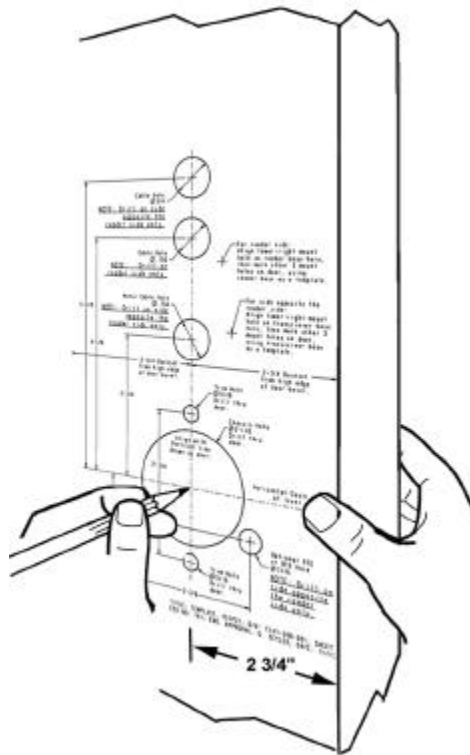

Figure 2-2 – Template, RSTP21, on Metal Door
Align the edge of the Template to be parallel with the edge of the door (Figure 2-2). The edge of the door maybe beveled, so the edge of the template may not line up exactly with the door edge, just make certain it is parallel to it.
- 2.4.1.5 Center punch the center points of the holes (Figure 2-2).